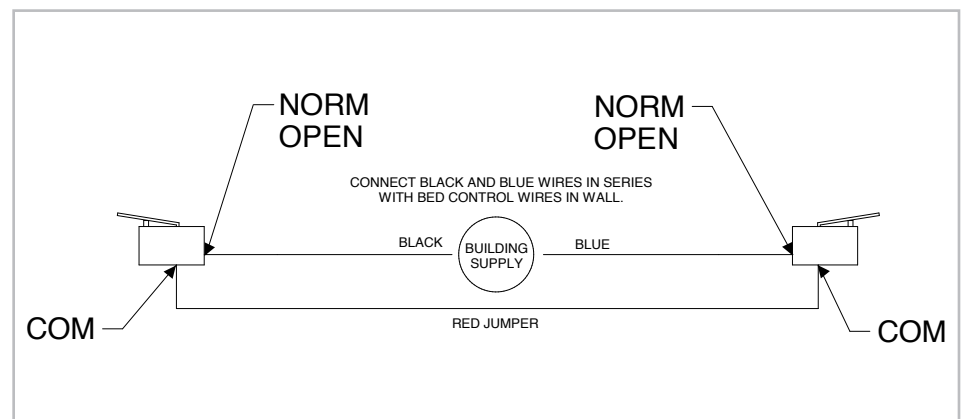

Figure 4: Bed Safety Switch option: cuts off power to the electrical receptacle for the motorized patient bed if the fixture is displaced.
3. If the Bed Safety Switches (BSS) are present, connect the leads from the fixture labeled "BSS" in series with the wiring to the wall receptacle that the motorized patient bed will be plugged into. See the wiring diagram in **Figure 4**.